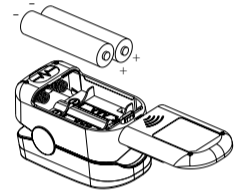

Figure 3. SureLife Oximeter Battery Installation
- Push the battery cover horizontally along the arrow shown in figure 3.